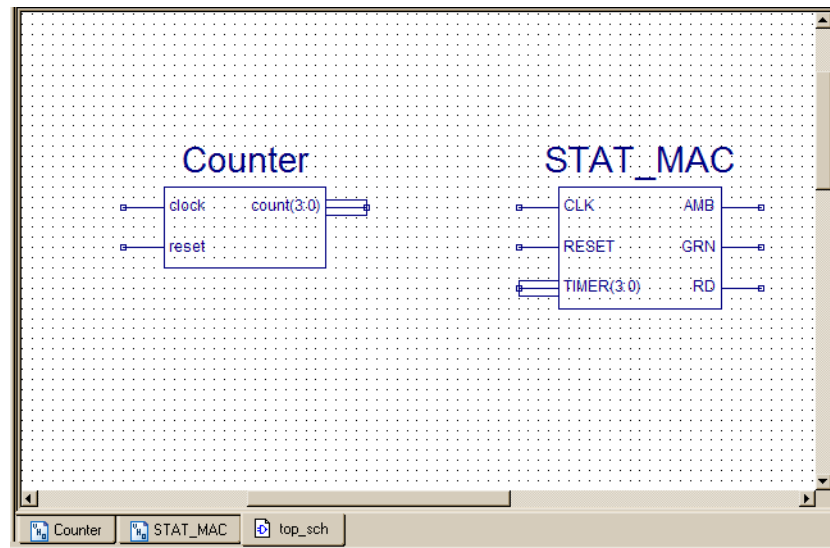

Figure 4-46: Close-up of Counter and State Machine Symbols
8. Zoom in using the button so your zoom button and the window looks like Figure 4-46.